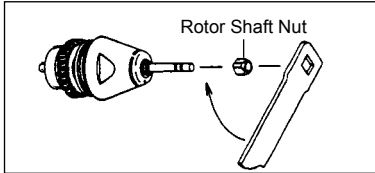

Fig. 15
- ③ Finally insert the rotor shaft nut along the test bur, and tighten firmly with a wrench while holding the rotor (Fig.15).